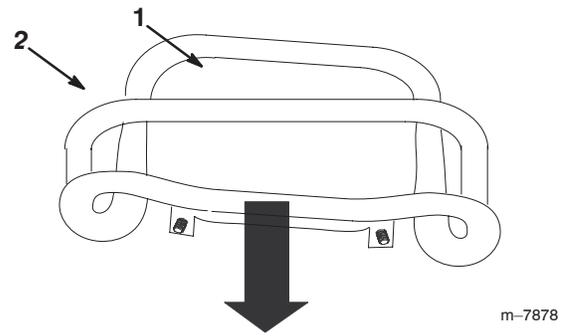

Figure 22
3. Pull straight back on the traction control so the front of the control contacts the reference bar (Fig. 22).